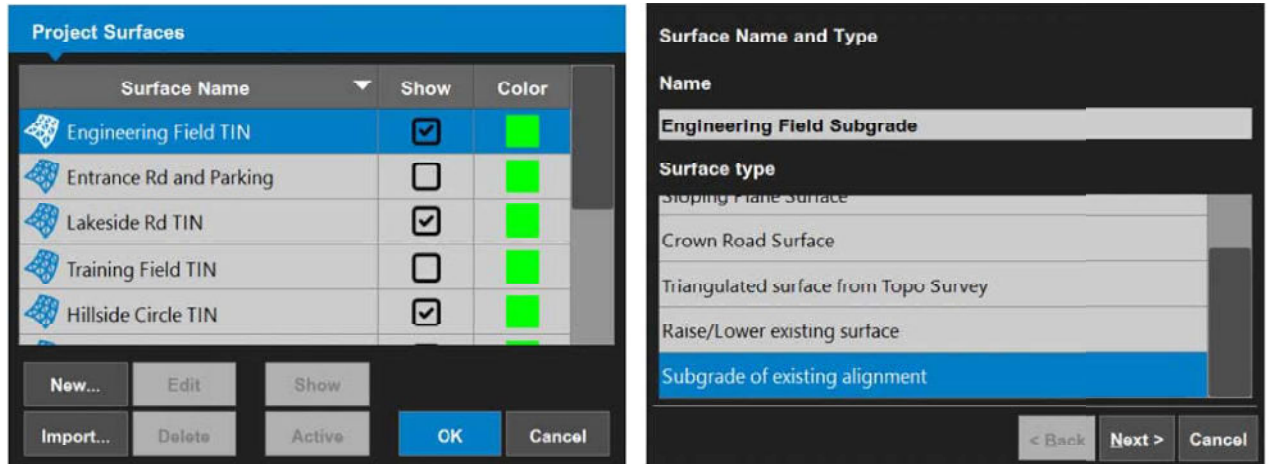

Figure 2-48: Surfaces Screen—Sub-grade Existing Alignment
3. From the **Surface Name and Type** screen, enter a name and select **Subgrade of Existing Alignment** (Figure 2-48).